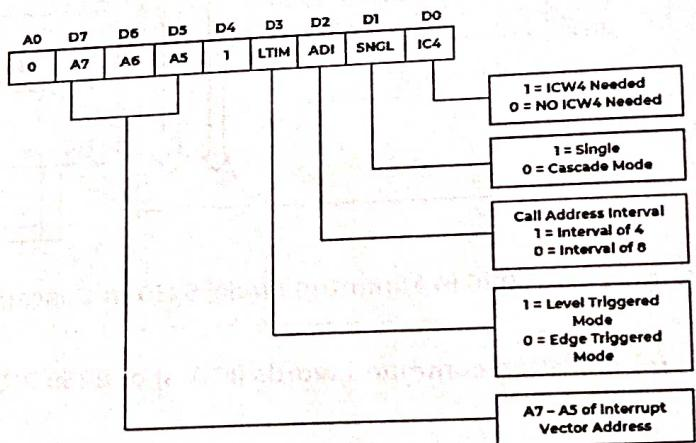

Figure 3.4: ICW1
- Figure 3.4 shows the Initialization Command Word 1 (ICW1).